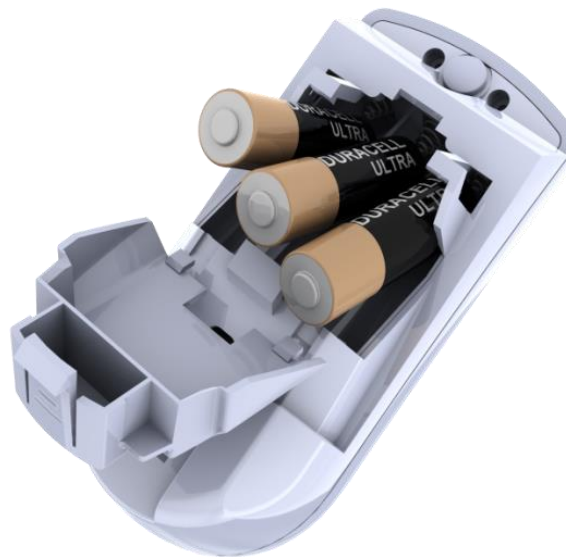

Figure 65: Inserting Batteries into the Camera
9. The down-counter provides a time-frame of three (3) minutes within which the batteries should be installed to power-up the camera, as demonstrated in Figure 65 below (the **+** poles aiming towards the lens):